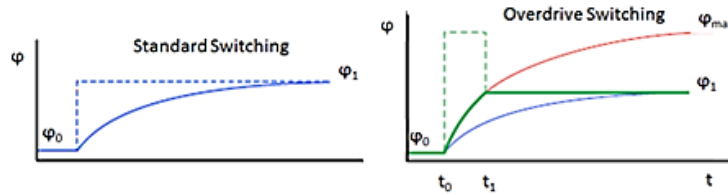

Figure 24 Standard switching, and Overdrive switching taking advantage of the transient nematic effect.
- Max Transient Frames – This parameter is specific to ODP. Multiple concepts are built into ODP to improve the LC switching speed. One concept is referred to as the transient nematic effect. As shown in Figure 24, if phase delay of a LC modulator is changed from φ_0 to φ_1 , then the LC molecules relax into the new phase following approximately an exponential curve. In order to take advantage of the transient nematic effect, one instead changes the phase from φ_0 to φ_{max} to φ_1 . This causes the relaxation to follow a different exponential curve until the desired phase is reached, resulting in a significantly improved switching speed. When switching between images with pixels set to arbitrary phases, the duration of time that the pixels should be set to an intermediate phase is variable based on the initial and target phase. The transient frames allow the different pixels to be held at varying voltages for an appropriate amount of time. However, on most computers each transient frame takes approximately 490 μs to load. There is a balance between minimizing the LC response time without limiting the system frame rate. In most applications we recommend this parameter be set to 10.